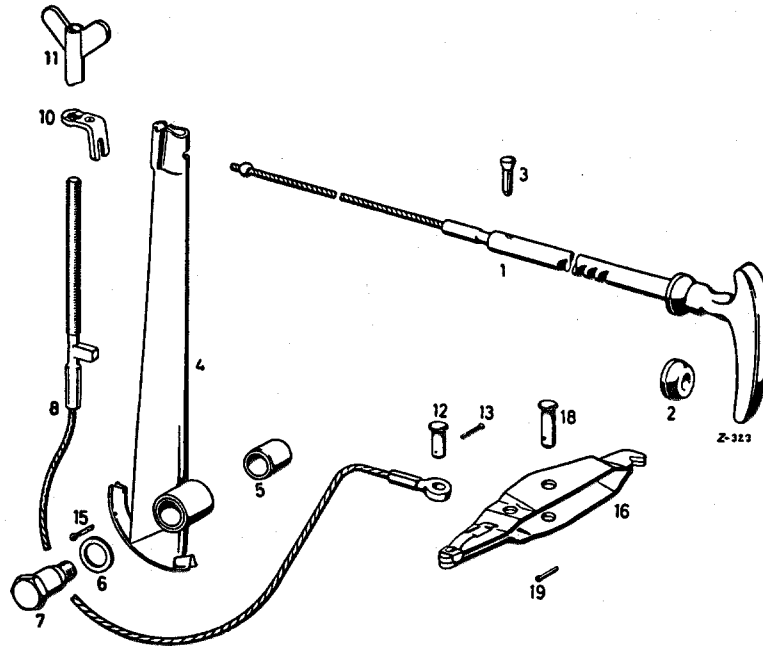

Fig. 42—18/1
1. Unscrew the wing nut (11) from the center brake cable (8) and remove together with bracket (10) (Fig. 42—18/1).
2. Detach the front brake cable from the brake lever (4).
3. Push the ratchet (1) right to the front (in the direction of travel). Then use a drift to tap the guide pin (3) out of the ratchet from below through the bore in the guide tube.
4. Pull the ratchet (1) out of the guide tube together with the front brake cable.
1. Unscrew the wing nut (11) from the center brake cable (8) and remove together with the bracket (10) (see Fig. 42 — 18/1).
3. Pull the cotter pin (15) out of the cable guide of the brake lever (4) and remove the center brake cable from the brake lever (4).
4. Unscrew the pivot pin (7) for the brake lever (4). Caution! Left-hand thread.
5. Remove the brake lever (4).